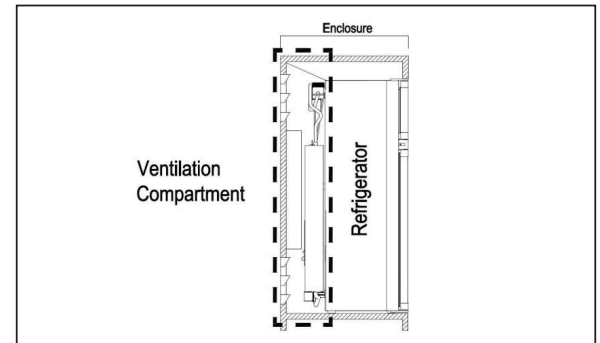

FIG 1
- The refrigerator must be level and installed in a substantial enclosure. See "APPENDIX A" See FIG 1.